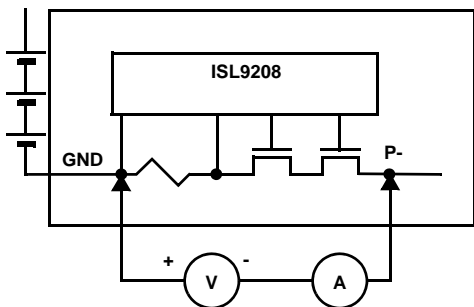

FIGURE 9. CHARGE OVERCURRENT TEST CONNECTION
- Connect the charge emulation power supply positive terminal to the board GND pin and connect the charge emulation power supply negative terminal to the board P- pin (see Figure 9). A current probe can be used to monitor the overcurrent details.